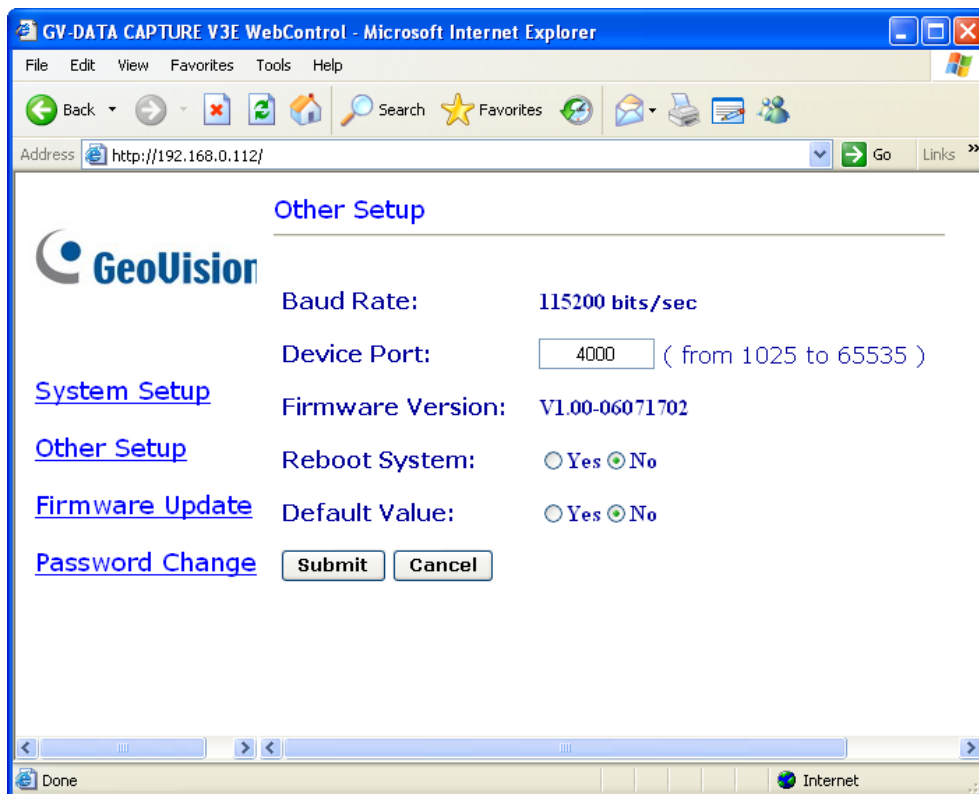

Figure 14
5. In the Device Port field, keep default value **4000**. Or modify it to match that of the POS system (see *Figure 14*).
3. In the Device Port field, keep default value **4000**. Or modify it to match that of the POS system (see Figure 14).
4. In the Device Port field, keep default value **4000**. Or modify it to match that of the POS system (see *Figure 14*).